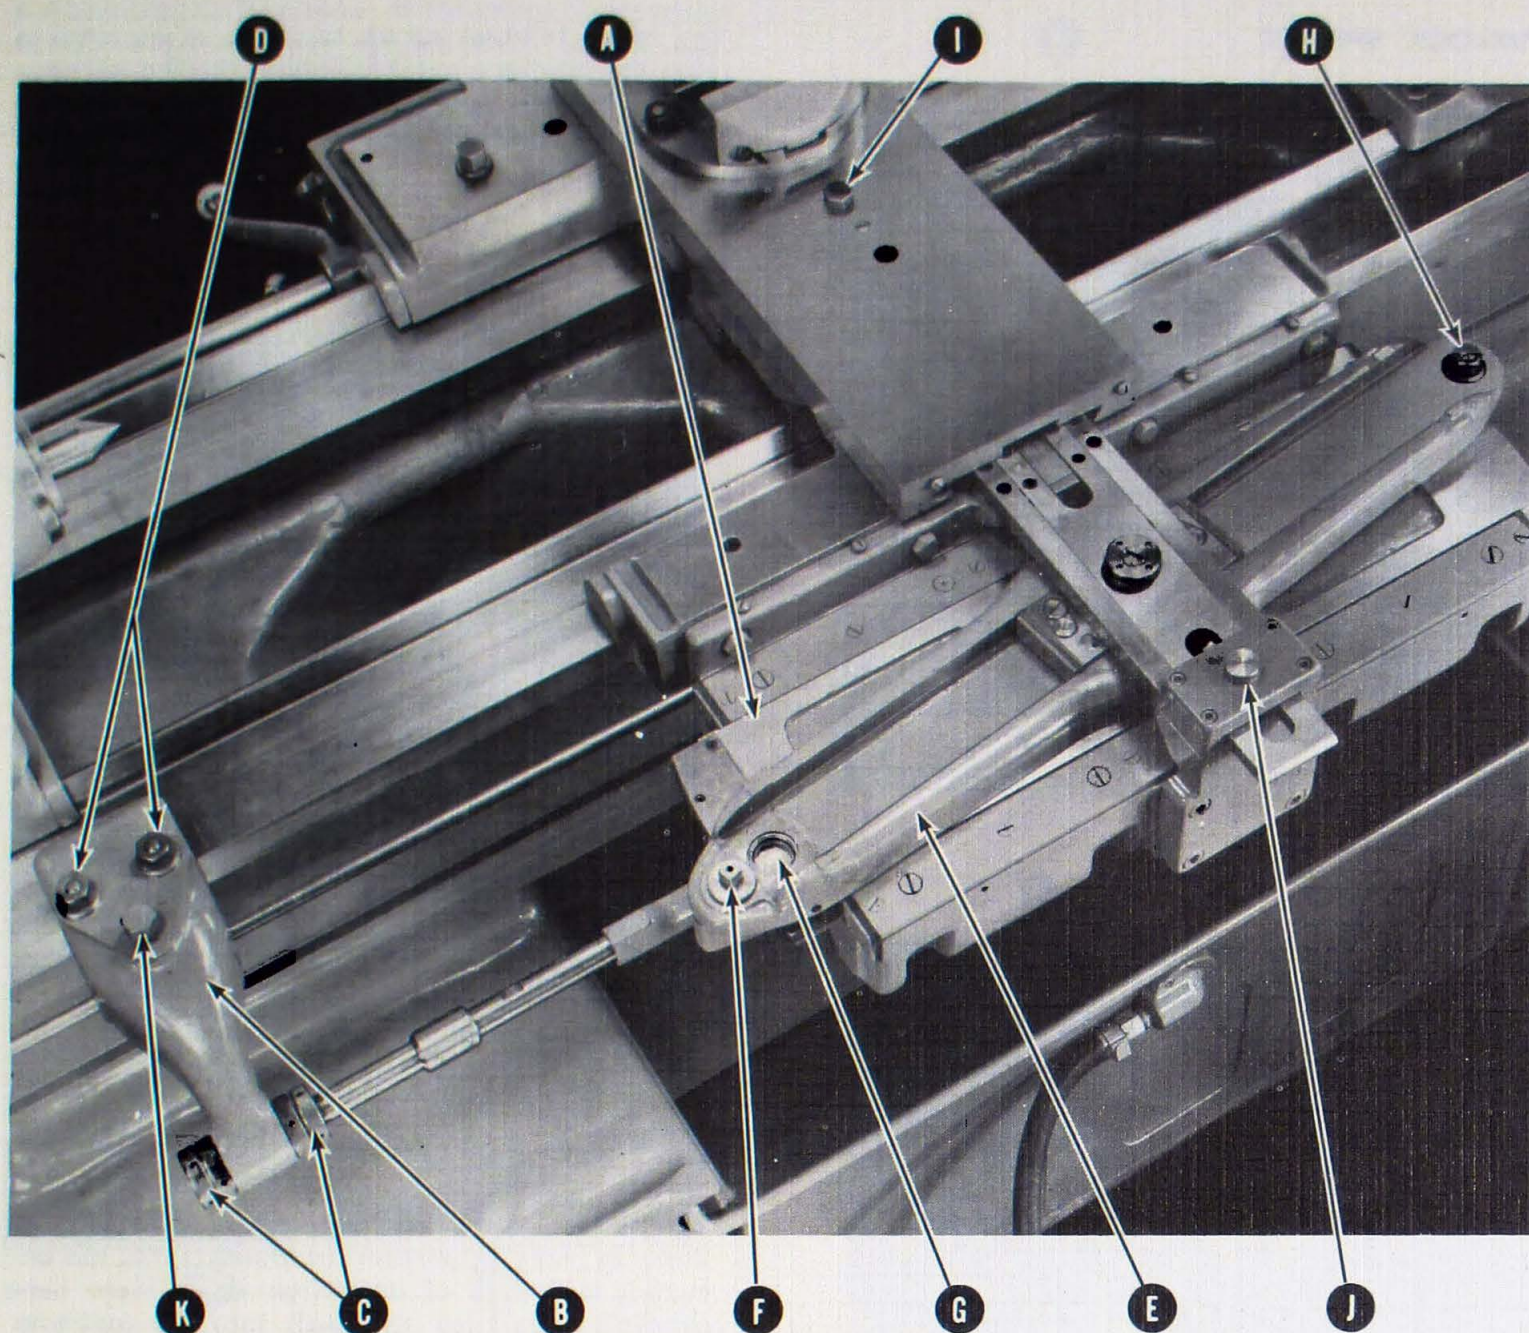

FIGURE 10 — Top Top View of Anti-friction Bearing Taper Attachment
2. Loosen stud (J) and push slide (A), Figure 10, all the way in toward the headstock, position bed clamp (B) as illustrated, tighten knurled nuts (C) and hex nuts (D).
3. Set swivel (E) at required taper by turning stud (F) and reading the graduations at the hairline through magnifying lens (G).
4. Lock nut (H) at the right hand end of the swivel and a similar nut on the underside of the